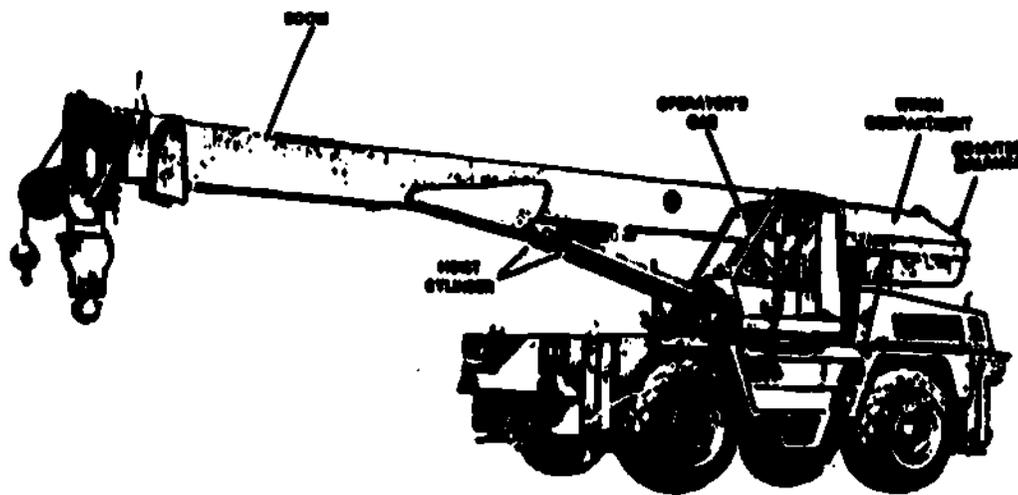

Fig 1-5. Upper Revolving Frame.
b. Upper revolving frame components. The upper revolving frame (fig 1-5), rests on the travel mechanism mounting. The upper revolving frame consists of the operating mechanism, counterweight, winches and boom. The Drott crane and excavator have the controls in the operator's cab which is also on the superstructure. The boom is attached to the operator's cab, along with the hoist cylinders (fig 1-5, 1-6).